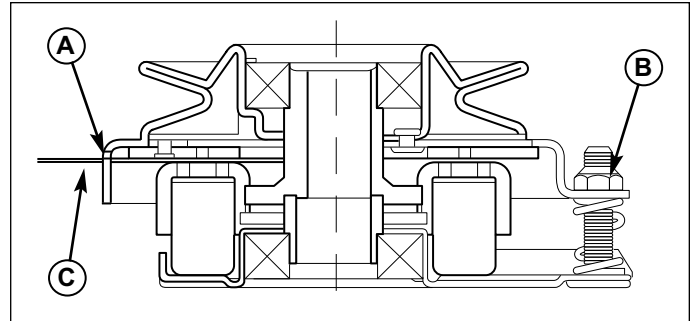

Figure 20. Adjust PTO Clutch
3. Insert a .016"-.018" (0,40-0,45mm) feeler gauge (C) through each window, positioning the gauge between the rotor face and the armature face as shown in Figure 20.